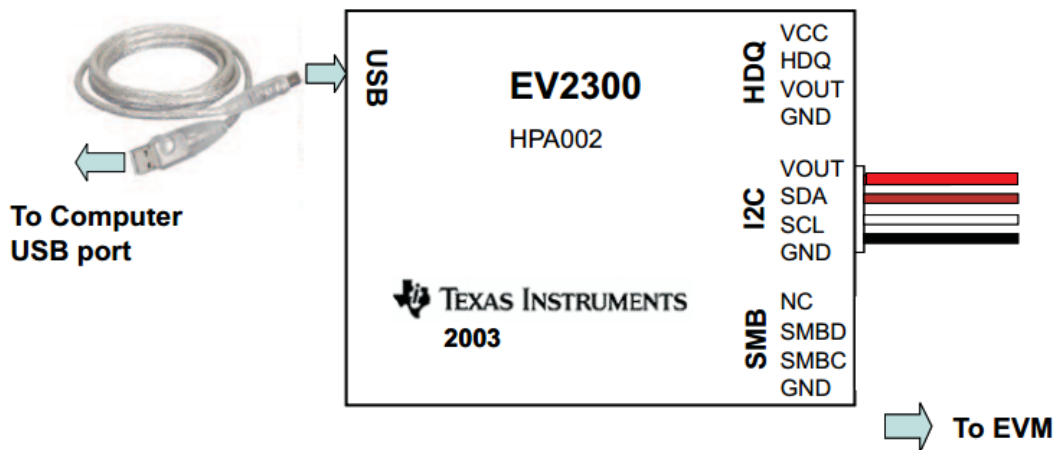

Figure 2. Connections of the EV2300
6. Connect the EV2300 USB interface board to the computer with a USB cable and from I2C port to J8 with the 4-pin cable. The connections are shown in Figure 2.